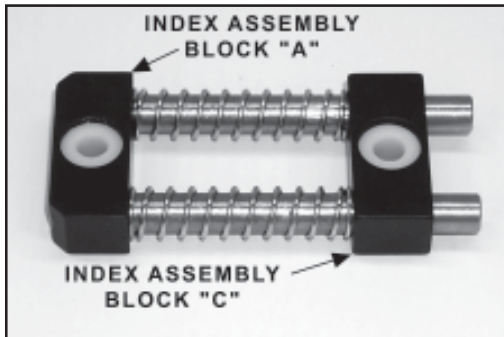
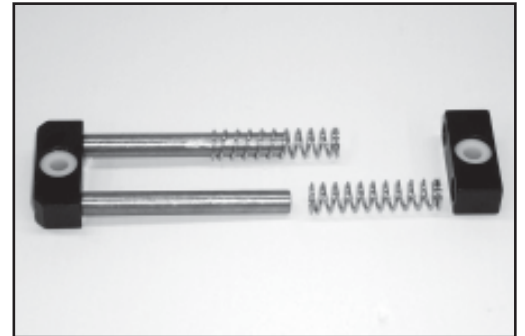

FIGURE 68
FIGURE 69
- 4- Holding onto the Index Assembly Block “A”, pull the Index Assembly Block “C” off the guide shafts (Figure 68). Remove the Drum Index Springs (Figure 69)